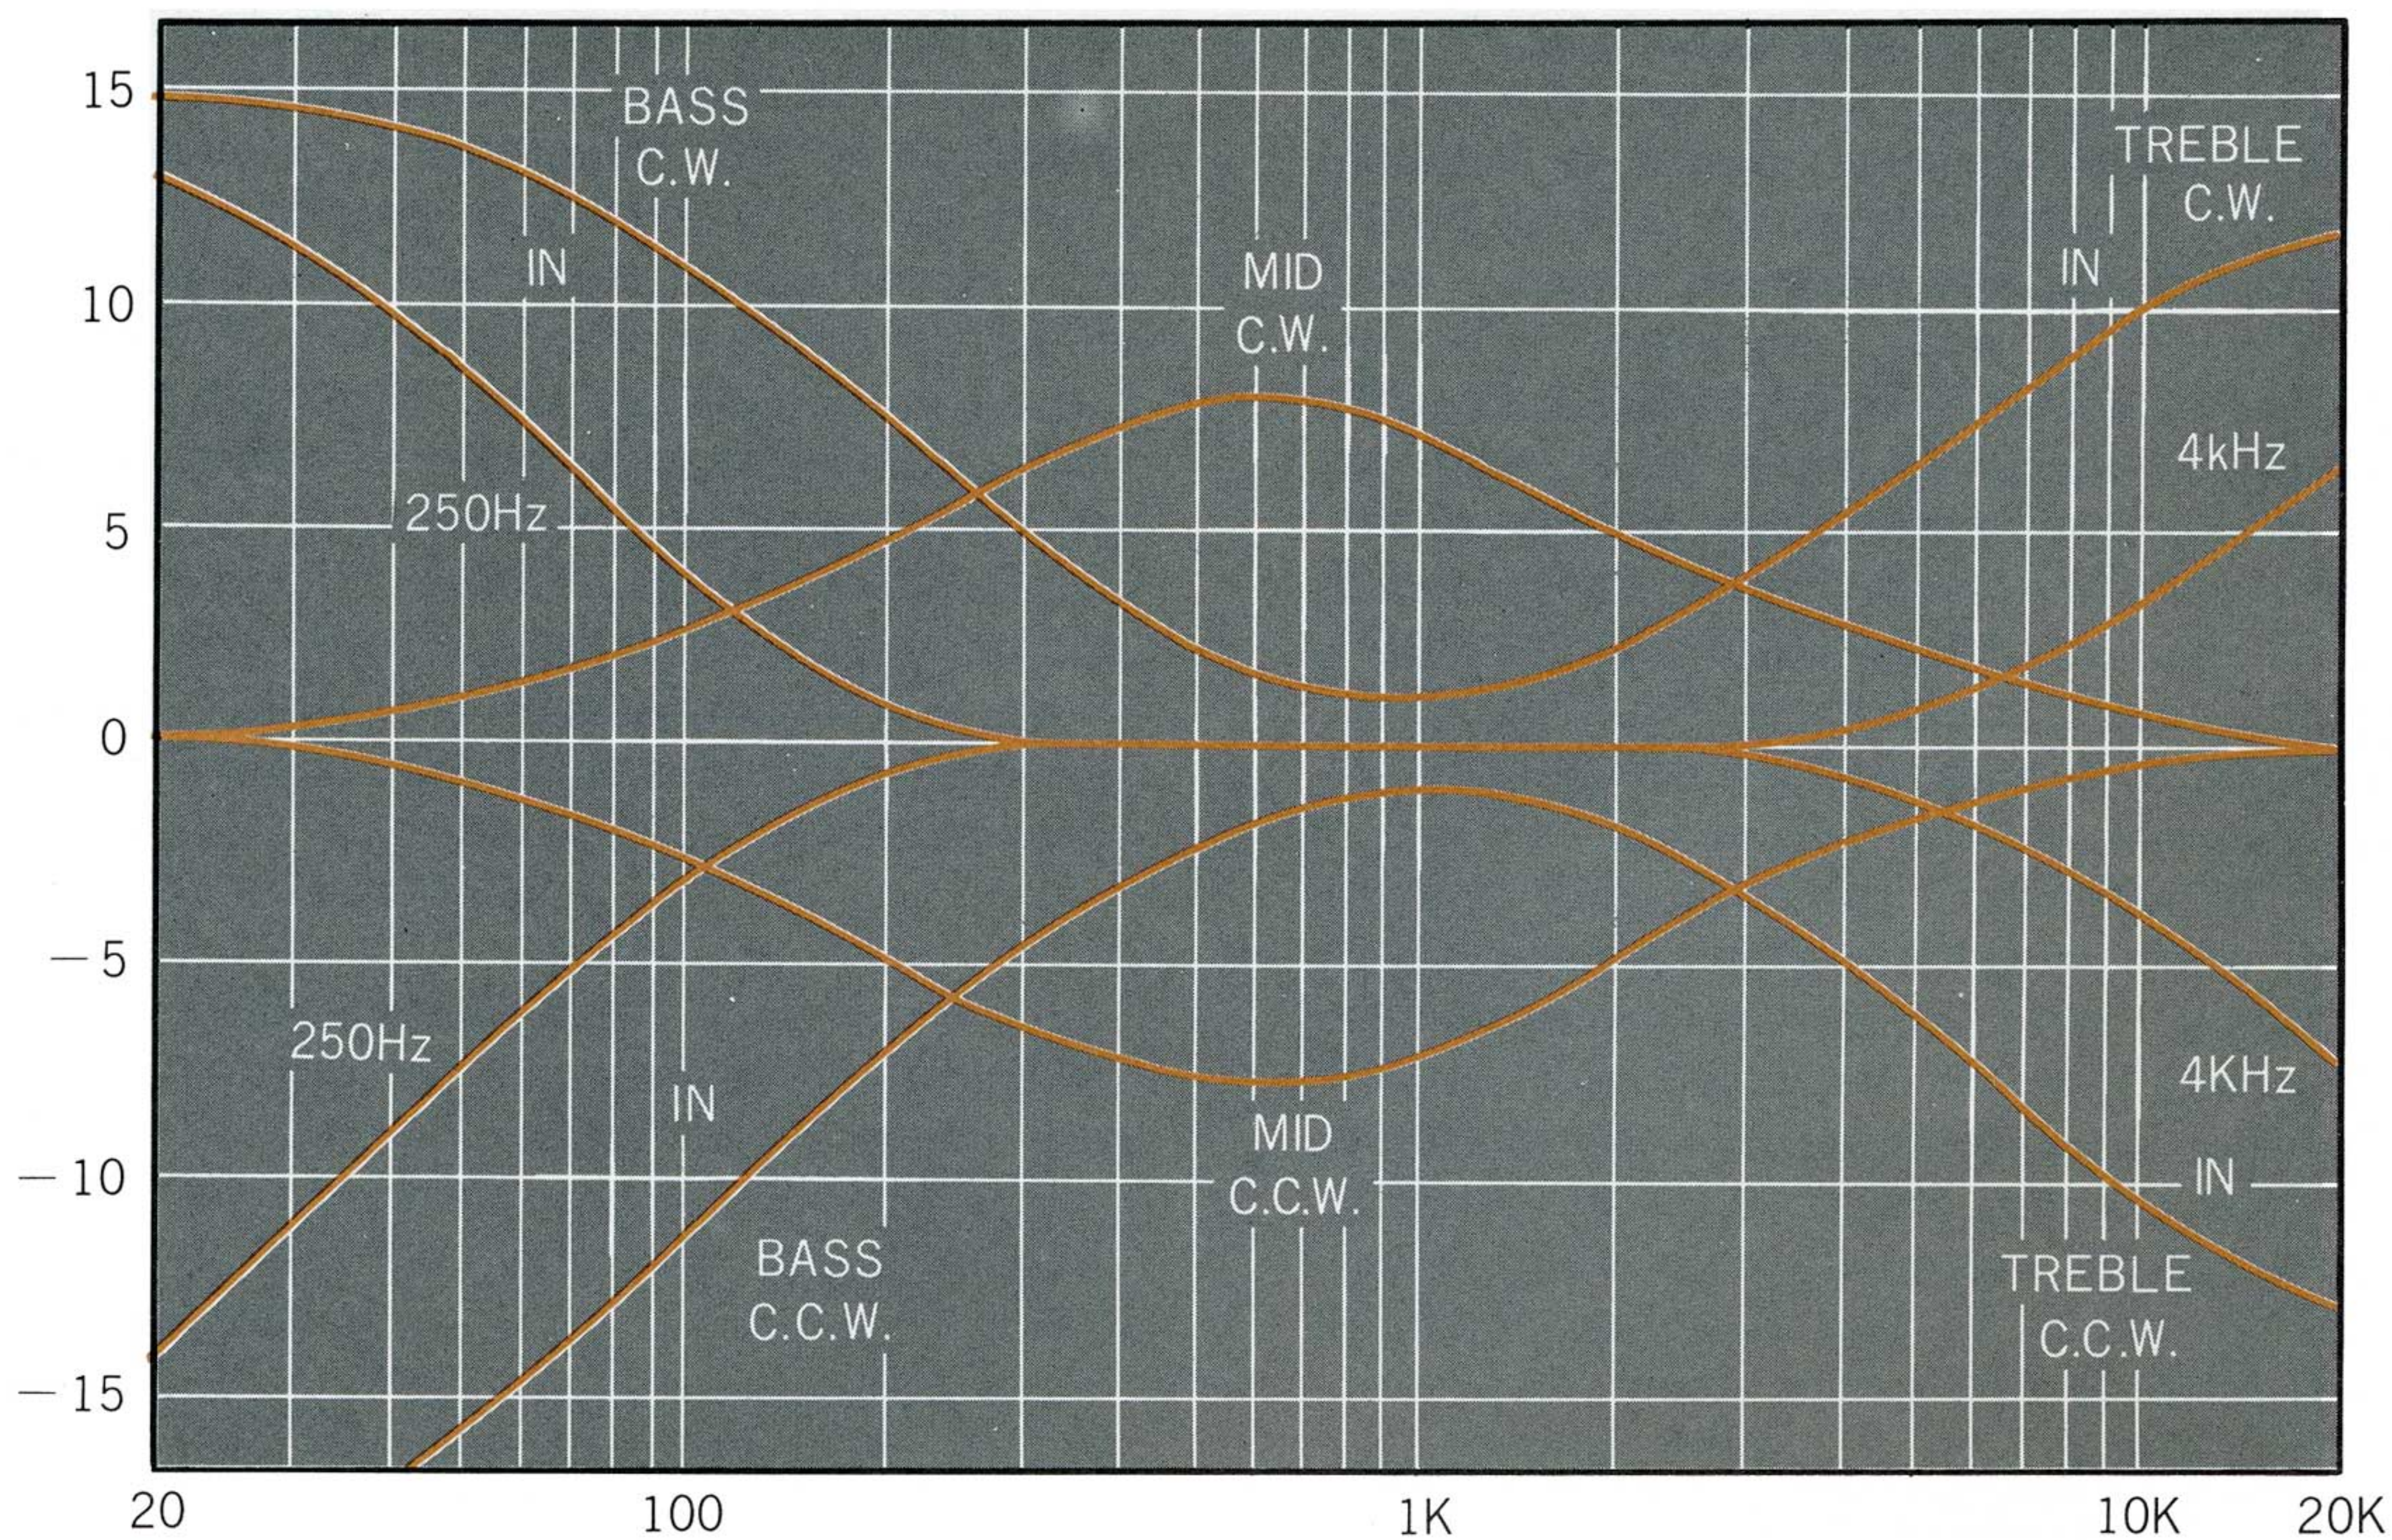

Figure 11. Tone Control Characteristics
c. Pack the unit carefully, using the original material as shown in Figure 11.